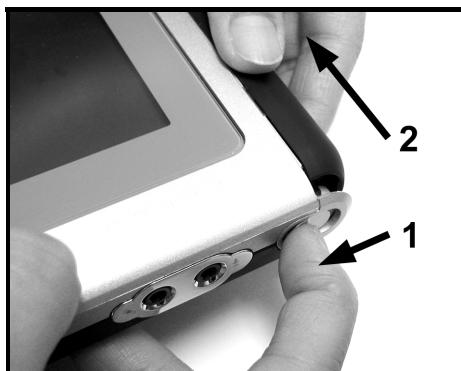

Figure 1
- Slide the latch first, and then slide the battery from right to left orientation as shown in **[Figure 1]** below.